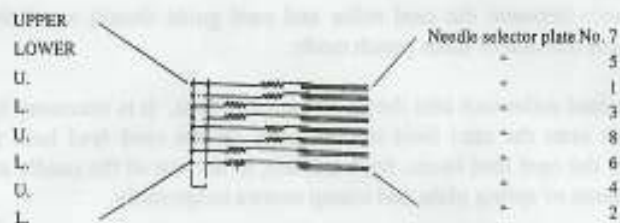

Fig. 16-3
2.3 Hook eight needle selector plate springs on spring hooks as illustrated above Fig. 16-3.